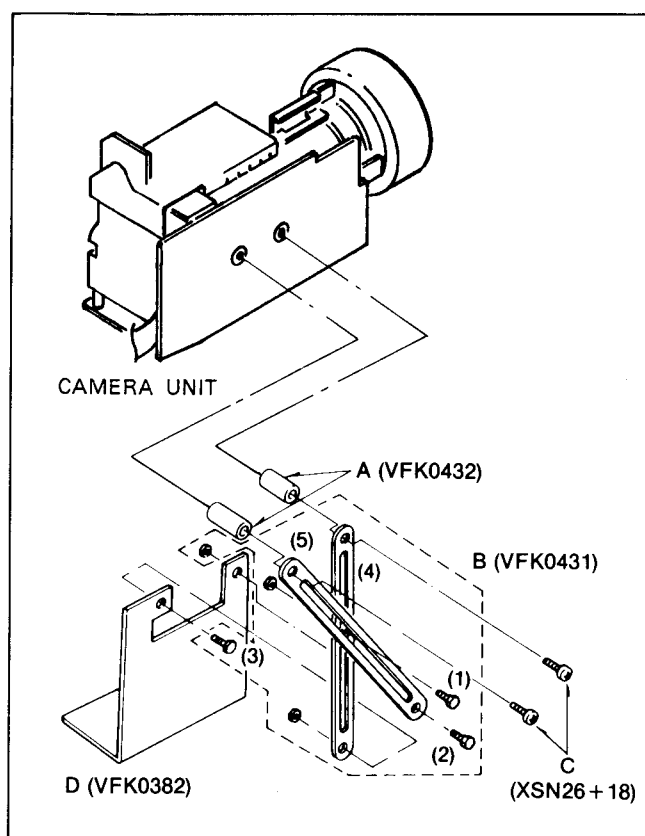

Fig. C5
- (A) --- VFK0432 Holder Spacer (2pcs)
- (B) --- VFK0431 Camera Holder Arm
- (C) --- XSN26+18 Screw (2pcs)
- (D) --- VFK0382 Camera Holder
1. Fix the Holder Arm (4) and (5) temporarily by screw (1) as shown in Fig.C5.
3. Tighten the screws (C) with the Holder Spacers (A) as shown in Fig.C5.